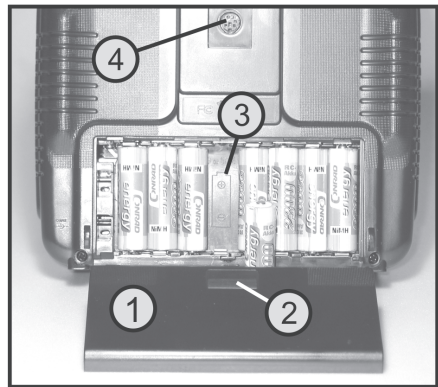

Figure 2
The control signals can be taken from the trainer socket (see figure 2, item 4) via an optional connection cable to connect, e.g. to the teacher transmitter or the flight simulator interface.
First remove the batteries/rechargeable batteries from the battery compartment (see figure 2). Unscrew the four screws by means of a Phillips-tip screwdriver from the rear panel of the transmitter and lift the rear panel carefully. Now you can remove the circuit board with the trainer socket (see figure 2, item 4) from the two retention latches.